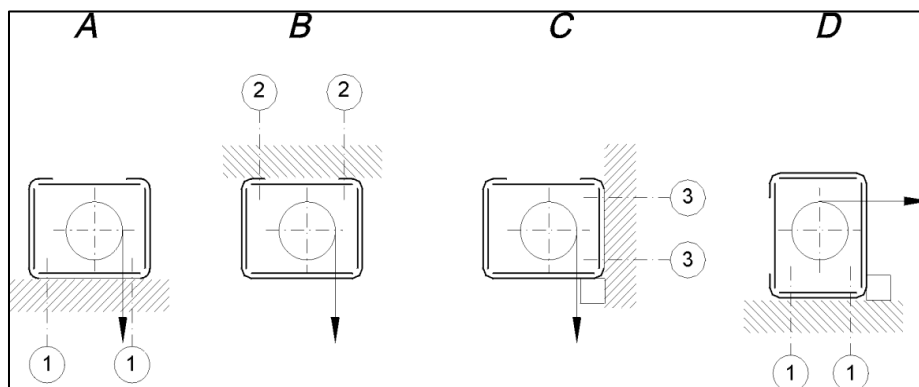
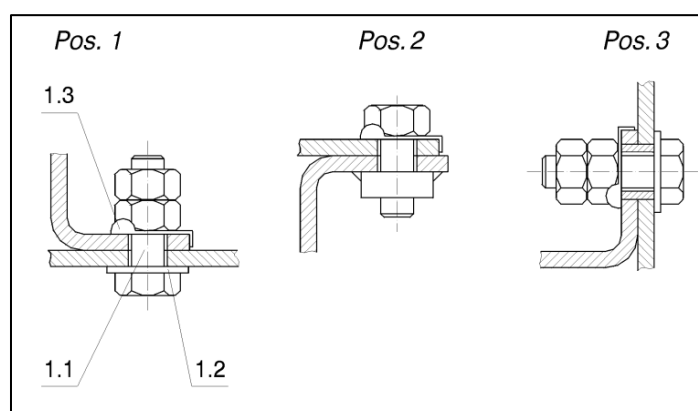

Figure 4.3.1
Figure 4.3.2
- On to a horizontal plane (standing modification). (Figure 4.3.1 A & D)
- Under a horizontal plane (under hung modification). (Figure 4.3.1 B)
On request the stationary electric hoists may be manufactured to be installed on a wall (Figure 4.3.1 B).
Different fastening types are shown on Figure 4.3.2. Pos.1, 2, and 3 refer to the different type of encircled assembly number shown on Figure 4.3.1.
The holes for fixing to a vertical plane are not shown, but the fastening elements are according to Figures 4.3.1 and 4.3.2, according to the body holes and according to the strength grade requirement for the bolt and the nut as per the standing position.